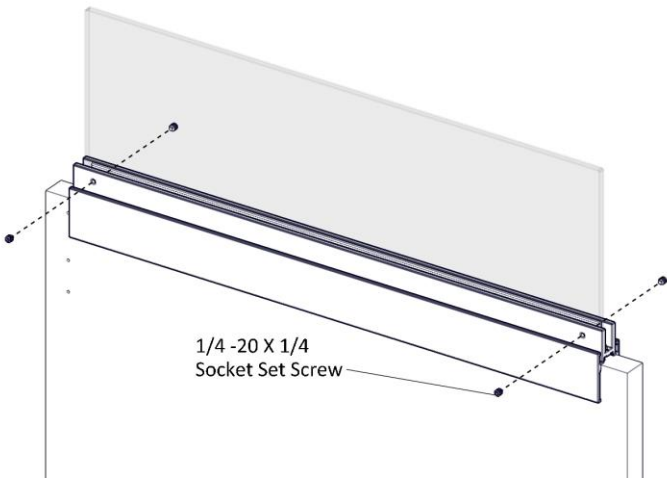

Figure 4
5. Align and secure the glass/acrylic by inserting a 1/4-20 X 1/4" Socket Set Screw through each of the holes on the side of the base extrusion using an Allen Key driver, (Figure 4).